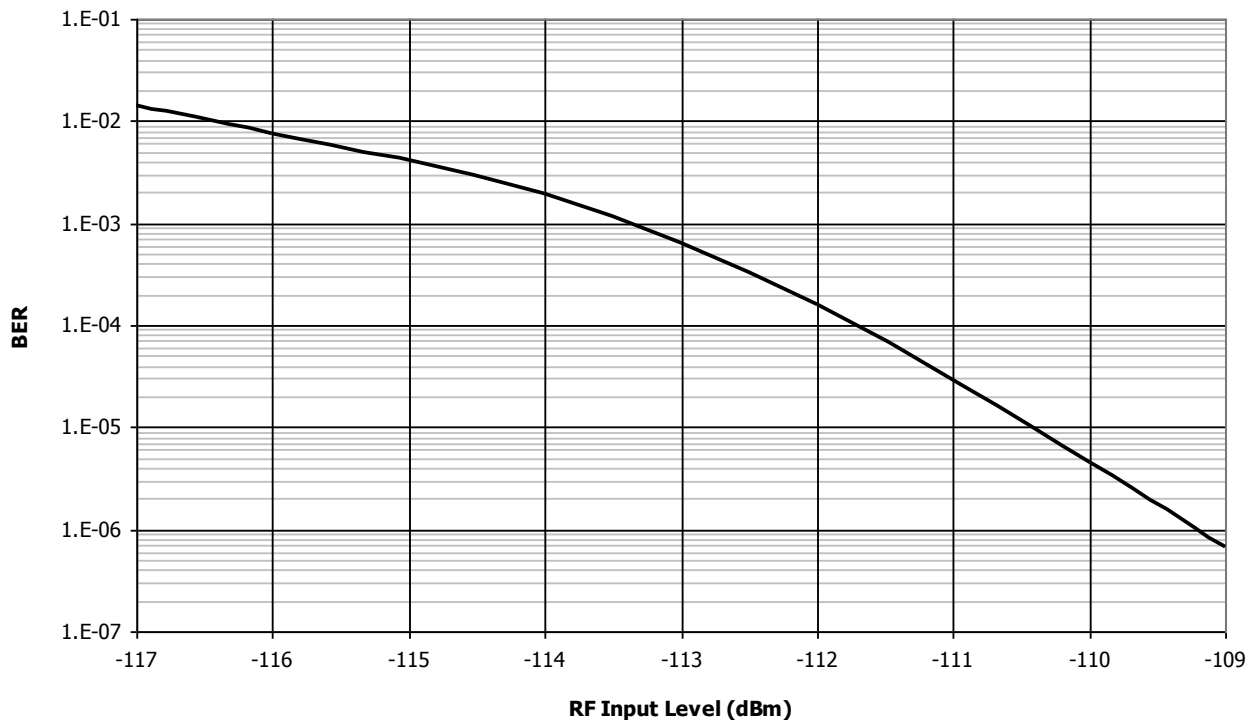

Figure 17 CMX994 and CMX7164FI-2 Typical 4-FSK Sensitivity (19.2kbps)
- Sensitivity for 1% BER -116dBm (see Figure 17)